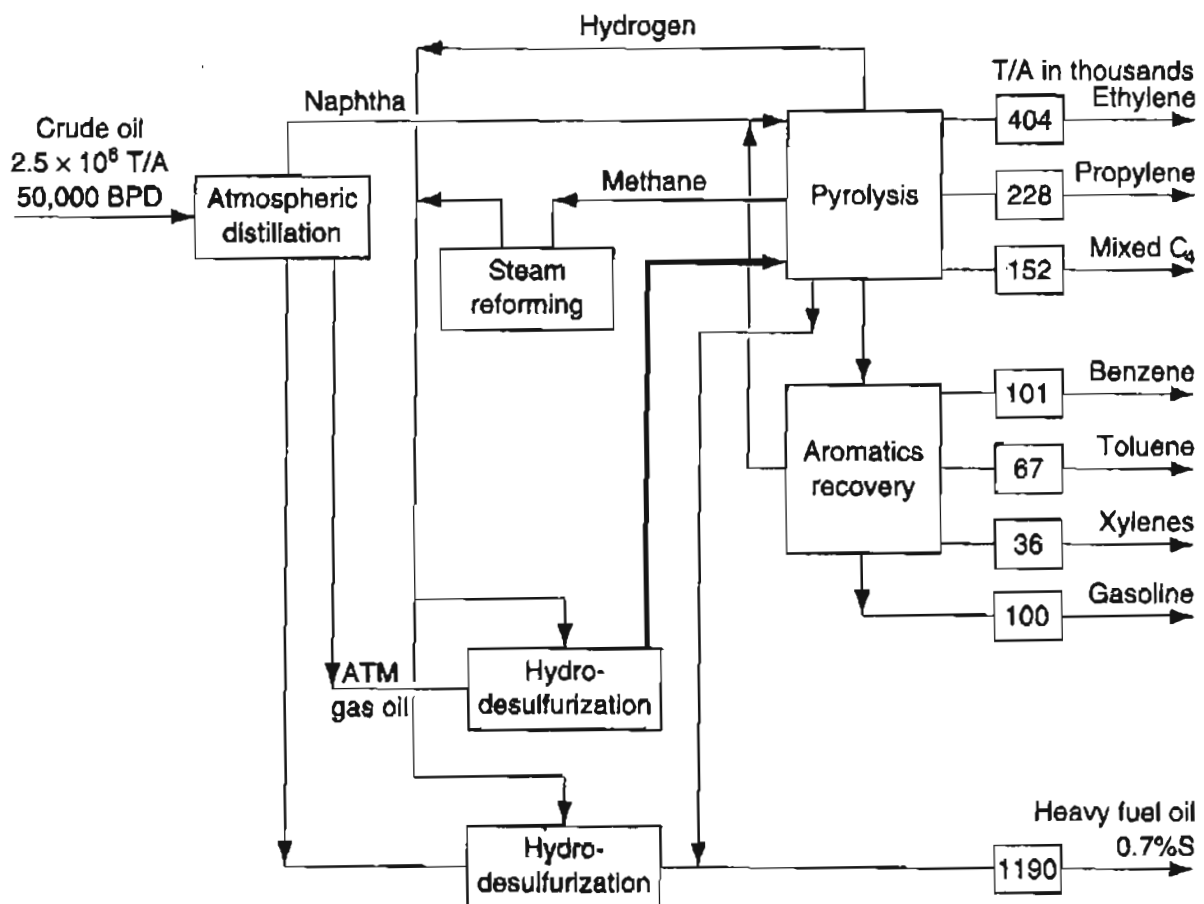

Figure P6.7
- **6.7** Examine the flow sheet in Figure P6.7 (adapted from *Hydrocarbon Processing*, November 1974, p. 159) for the atmospheric distillation and pyrolysis of all atmospheric distillates for fuels and petrochemicals. Does the mass in equal the mass out? Give one or two reasons why the mass does or does not balance. Note: T/A is metric tons/year.